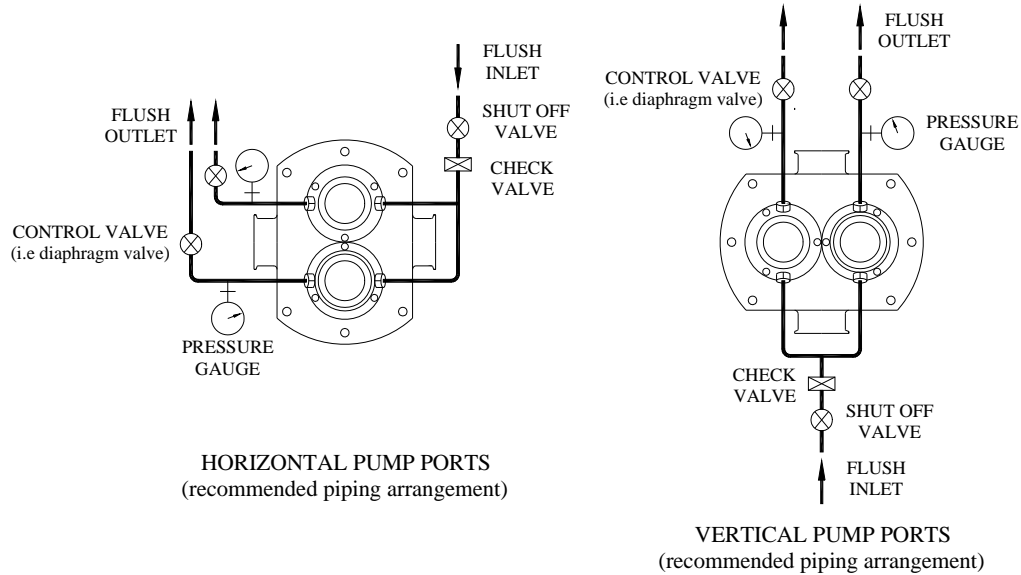

Figure 3.3.1
- The flush system is correctly installed and connected, see figure 3.3.1 and 3.3.2 for recommendations.
The flushing system may be arranged the same as the double mechanical seals, shown in figure 3.3.1 and 3.3.2. The double o-ring seals may also be lubricated with grease if the pump application justifies doing so. In this case, the seal flush chambers are filled through grease nipples with approved grease that is suitable for use with the pumped media. The chambers must be filled completely for proper operation. This can be accomplished by over pressurizing the chambers such that grease will be squeezed out of the seals along the shafts and into the rotor housing. The amount of grease in the seal chambers must be monitored daily, and if the pump is used in constant duty applications, it should be checked several times every 24 hour period.